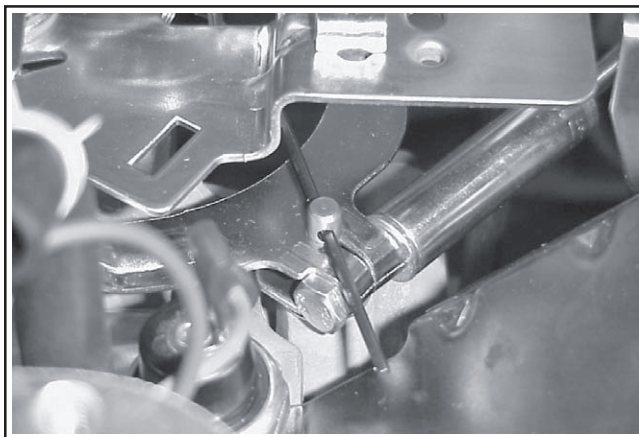

Figure 5B-38. Adjusting Governor Shaft.
5. Reconnect the dampening spring into its governor lever hole from the bottom. Reinstall the bushing and reattach the throttle linkage. See Figure 5B-33. Reattach the governor spring in the marked hole.